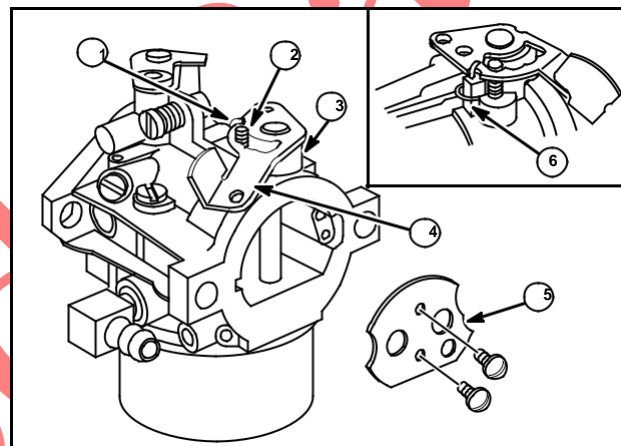

Fig. 114
1. Install foam seal and return spring on choke shaft hooking small hook (1) in notch on choke lever, Fig. 114, inset.
3. If carburetor has spring detent, guide detent spring (2) into slot on choke shaft lever (4).
4. Place choke plate (5) on shaft with single notch on edge towards fuel inlet. Two half moon dimples will help to position valve on shaft.